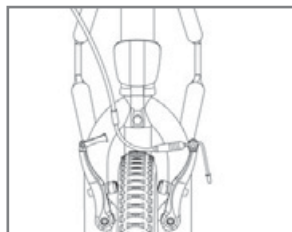

Fig. 2. Unclipping brake clutches
3. Before the beginning of wheel installation, unclip the clutches of the front brake. In order to do this, pull the clutches towards each other and pull out the knee joint ("pipe") from the fixture. Fig. 2.